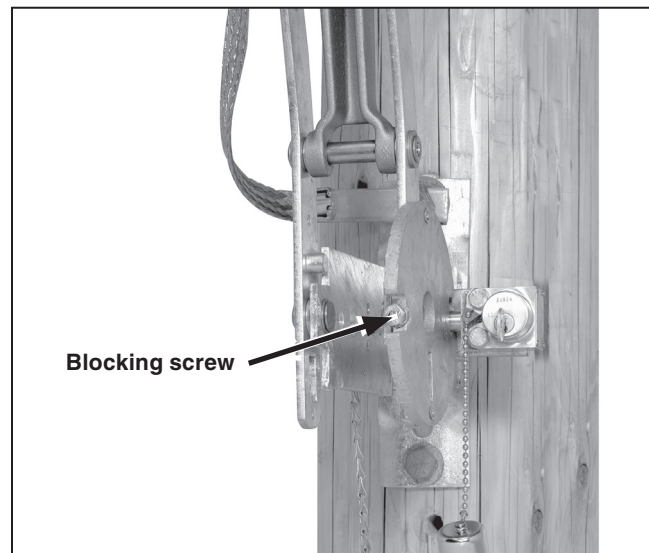

Figure 25. Blocking slot in interlock disc.
**STEP 22.** Block one of the two slots in the locking disc with the blocking screw provided. (The slot to be blocked depends on whether a locked-open or locked-closed arrangement is required.) See Figure 25.